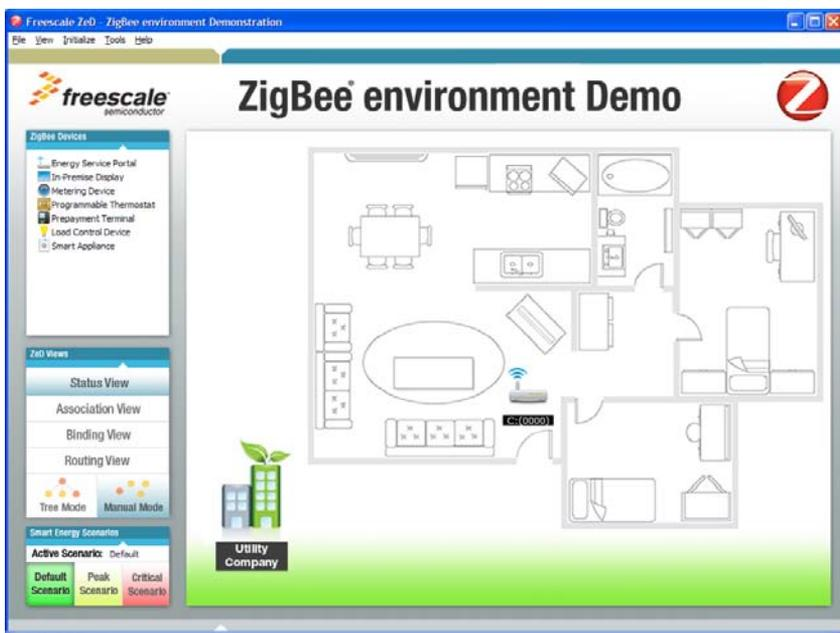

Figure 8. ZigBee Main Window After ESP Detection
5. Ensure that the COM port of the ZigBee Coordinator is highlighted and click the OK button. This launches the ZeD main window. ZeD connects to the ZigBee Coordinator and will use it as a gateway to find out information about the other nodes in the network. Once the coordinator application type is detected, the ZeD main view changes to reflect the fact that it has detected a Smart Energy Profile ESP as shown in Figure 8.